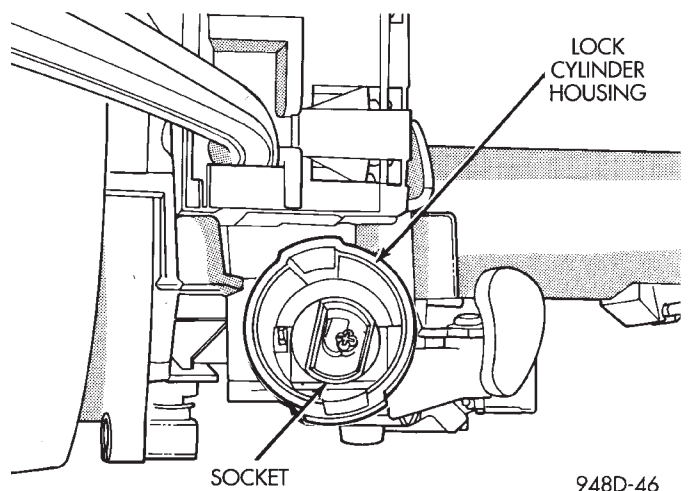

Fig. 64 Socket in Lock Cylinder Housing
- (2) The shaft at the end of the lock cylinder aligns with the socket in the end of the housing. To align the socket with the lock cylinder, ensure the socket is in the Run position (Fig. 64).